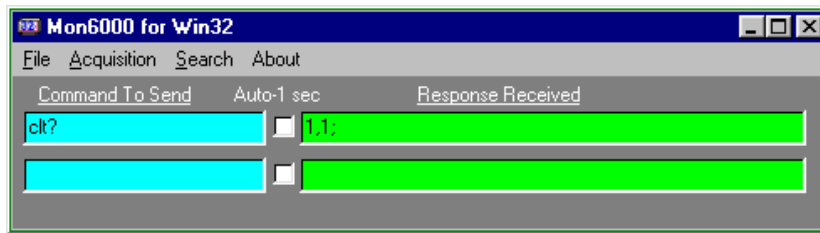

Figure 5. Checking the low-temperature control mode using the Mon6000 dialog
2. When the **Mon6000** dialog opens (Figure 5), you will see separate text-entry panels titled "**Command To Send**" and "**Response Received**."
As shown in Figure 5, the **Response Received** panel will then display the active low-temperature regime. You can see that the CLTC option is installed and it is being used, because the **Response Received** panel displays "**1,1**" just as it would in MultiVu.